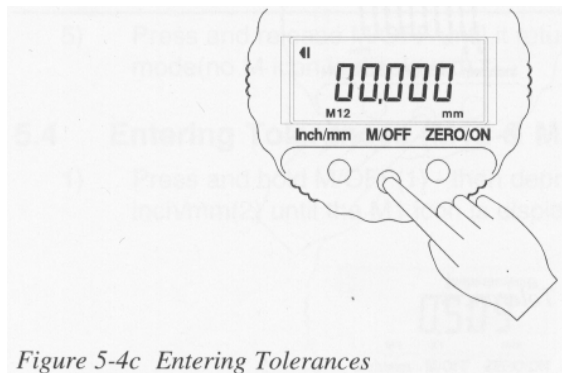

Figure 5-4c Entering Tolerances
- 3) Press and release M/OFF to display the M12 icon signifying that the unit is in the limit #1 tolerance entry mode. A cursor will be above the left most digital position. (Fig.5-4c)
- 2) As described in section 5.4(3) press and release M/OFF until the M12 icon appears signifying that the unit is in the limit #1 tolerance entry mode. (Fig.5-4c)